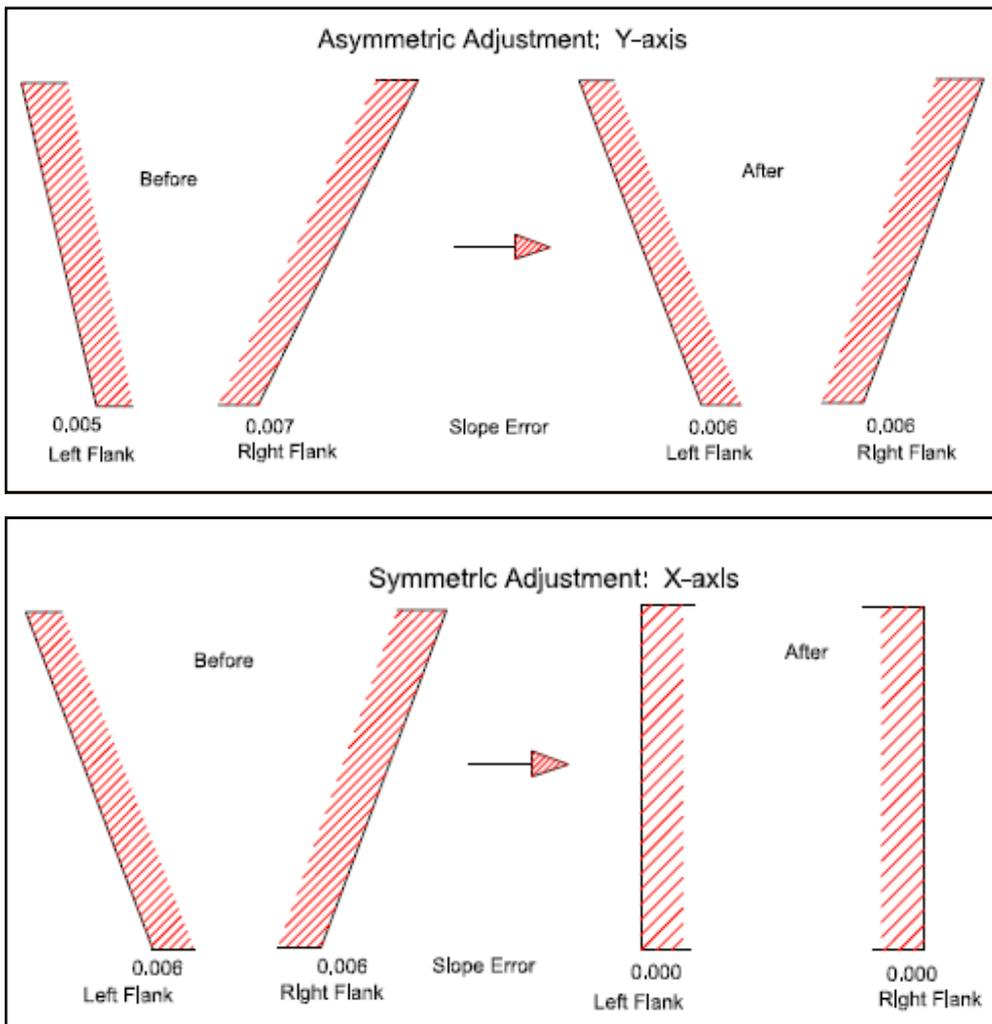

Figure 15 Profile slope setup adjustment in two steps: symmetric and asymmetric.
- One way to make profile slope setup adjustments is to break it down into two steps: symmetric and asymmetric adjustments (Fig. 15). The asymmetric adjustment is achieved by shifting the tangential axis (Y-axis) and the symmetric by adjusting the center distance (X-axis) between the gear and the dressing wheel. This can be accomplished in an automatic mode or semi-automatic mode when the operator would be selecting (Yes/No) for including the adjustments.